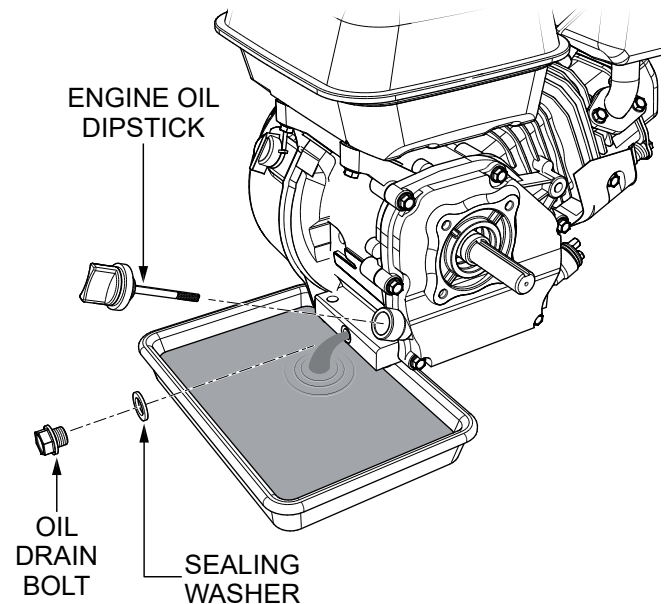

Figure 34. Draining The Engine Oil
1. Remove the **engine oil dipstick**, **oil drain bolt**, and **sealing washer** (Figure 34), and allow the oil to drain into a suitable container.